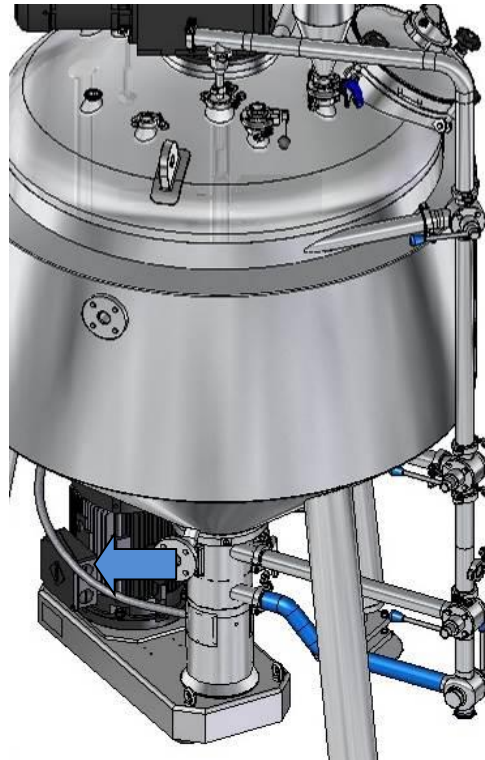

Fig 6.5. Circulation with discharge shearing
- Circulation with discharge shearing (Fig 6.5)